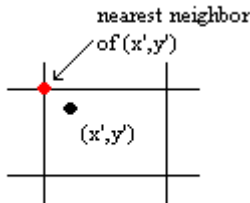

Figure 2 - Nearest Neighbor
Nearest neighbor (NN) resampling uses the pixel value of the closest integer coordinate neighbor (see Figure 2).